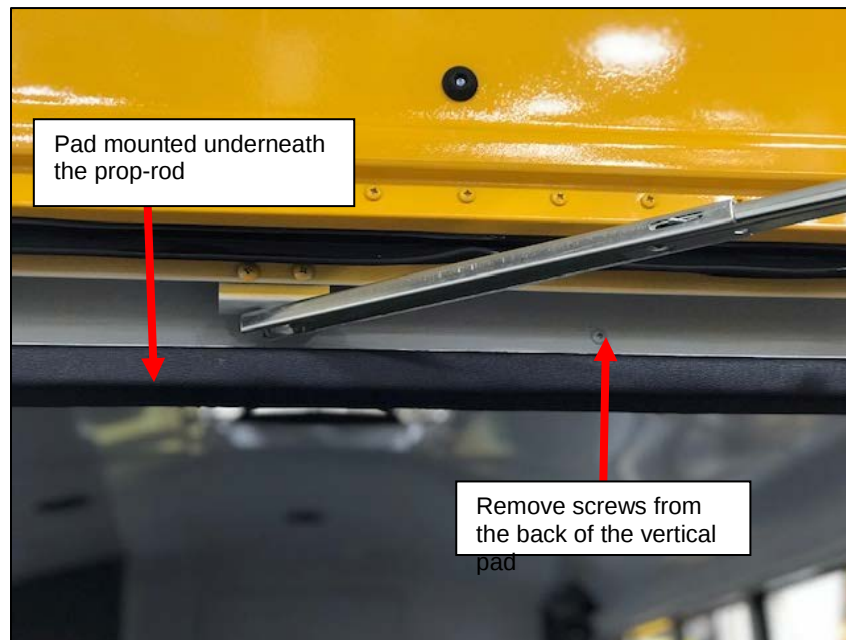

Figure 1: Location of Pads
2. Fully open the rear emergency door. If the pad underneath the prop-rod interferes with access, remove the pad from underneath the prop-rod and the vertical pad. Retain the pads and screws for reinstallation. See **Figure 1**. Otherwise, it is not necessary to remove the pads, go to the next step.